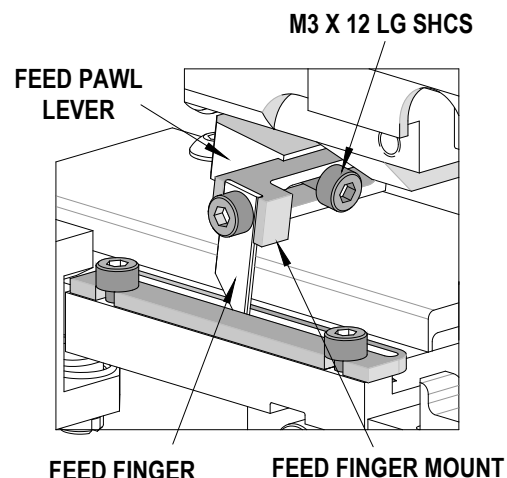

Figure 2-8A
5. Loosen the M3 SHCS located on the feed finger mount and slide the feed finger to the desired position. See Figure 2-8A.